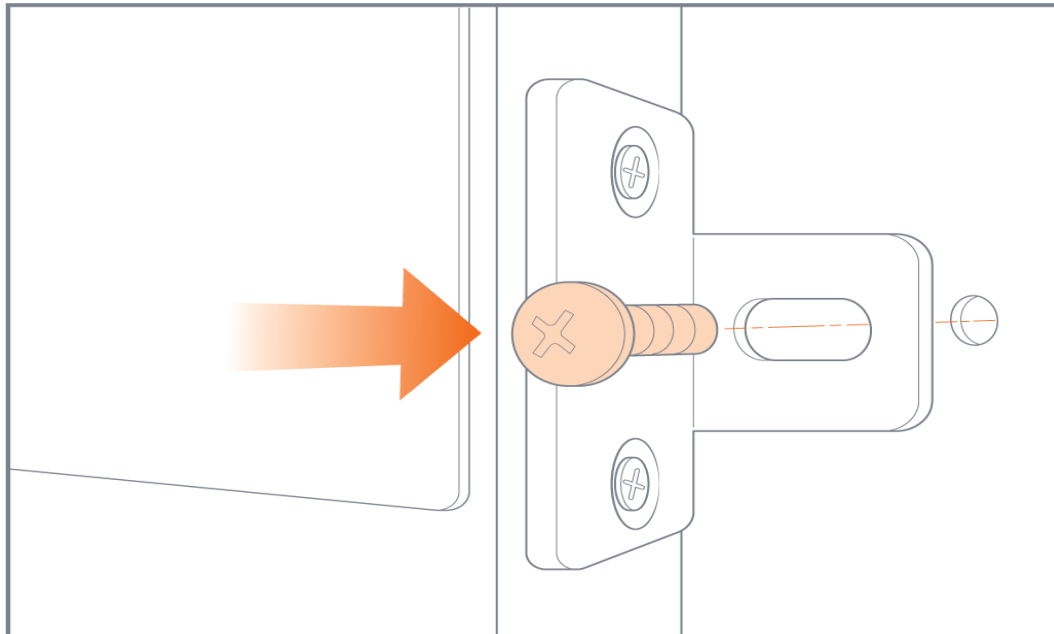

Figure 3-4: Locking Rack Ear Attached to Rack
9. Insert the screw through the locking rack ear on the chassis to secure the node in place and keep it from sliding out of the slide rail. Tighten the screw. Refer to Figure 3-4 on page 55.